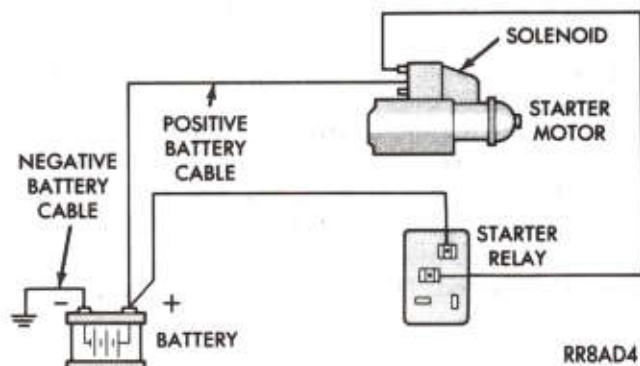
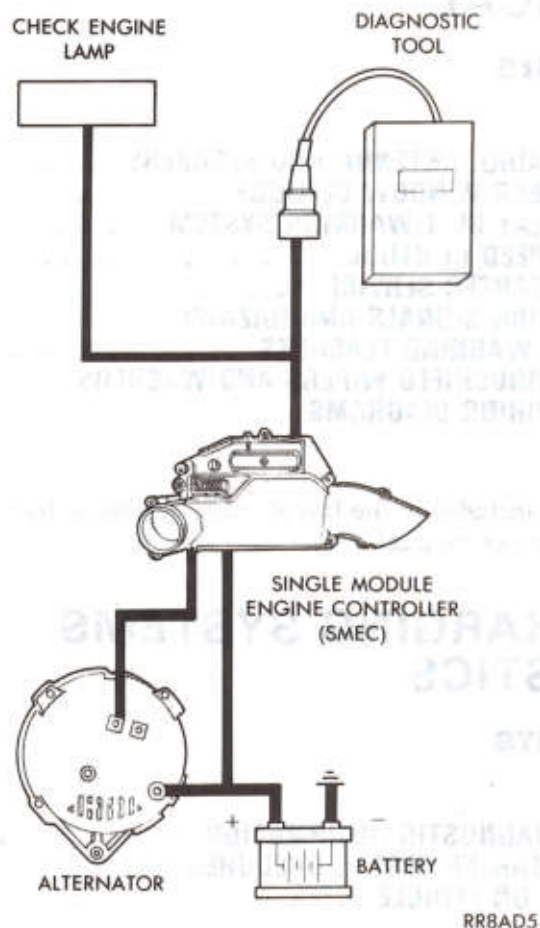
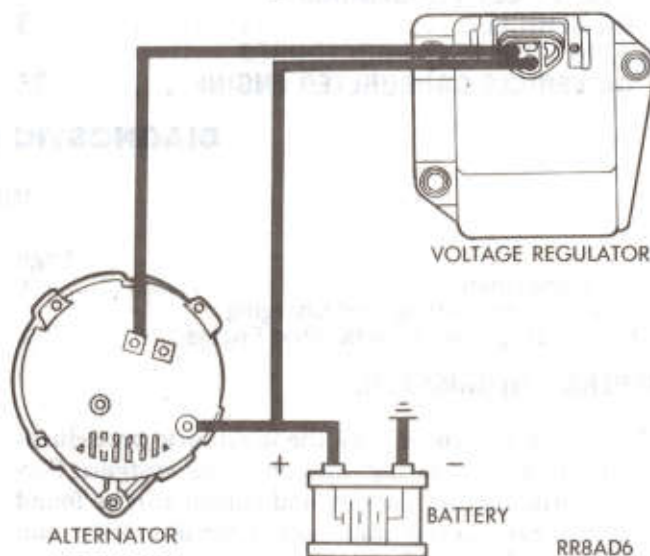

Fig. 1—Starting System Components
Fig. 2—Charging System Components TBI Engine
Fig. 3—Charging System Components Carbureted Engine
tronics also must perform within specifications. Group 8A will cover Starting (Fig. 1) and Charging (Fig. 2) System diagnostic procedures from the most basic conventional methods to "On Board Diagnostics" (OBD) built into the vehicle's electronics. The need for conventional testing equipment has not been eliminated by the introduction of OBD. Frequent use of an amp meter, volt/ohmmeter, battery charger, carbon pile rheostat (load tester), and 12 volt test light will be required.
tored failure in the form of a numerical Fault Code when a readout command is given. A command can be made by cycling the ignition switch ON-OFF-ON-OFF-ON (without starting the engine) within five (5) seconds. The CHECK ENGINE lamp on the instrument cluster will flash in predetermined sequences to indicate fault codes. However, the CHECK ENGINE lamp cannot express fault codes for all failures or initiate test modes for monitored circuits. Numerical fault codes are easier to obtain and more complete with the use of a Diagnostic Tool plugged into the diagnostic connector, located in the engine compartment (Fig. 2). See Group 14, "Fuel Injection" for additional information.
The battery, starting, and charging systems operate in conjunction with one another, and therefore, must be thoroughly tested as a complete system. In order for the vehicle to start and charge properly, it must have a battery that will perform to specifications. The starter motor, alternator, voltage regulator, and wiring also must perform within specifications. Group 8A will cover battery (Fig. 1), starting (Fig. 1), and charging systems (Fig. 3) diagnostic procedures only. Service procedures for battery and starter motors can be found in Group 8B. Service procedures for alternators can be found in Group 8C.